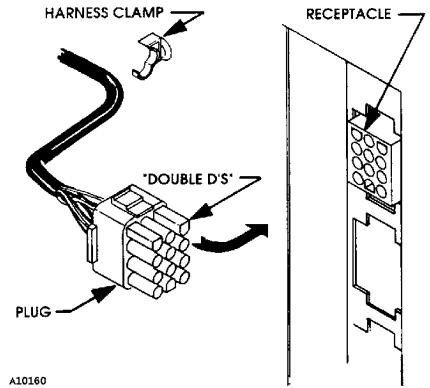

Figure 4. Tray Harness
2. Locate the harness clamp on the right side wall. See Figure 4.
6. Locate the release lever on the left and right tray rails. See Figure 4. Swing the release levers all the way up to unlatch.